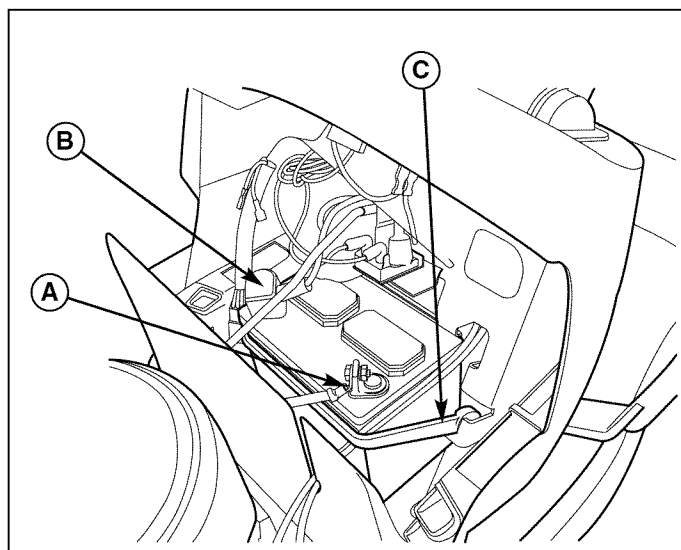

Figure 21. Battery
1. Disconnect the cables from the battery, negative cable first (A, Figure 21).
2. Remove the battery hold-down (C) and battery.
5. Reinstall the battery in the battery compartment, and secure with the battery hold-down (C).
6. Reattach the battery cables, positive cable first (B).